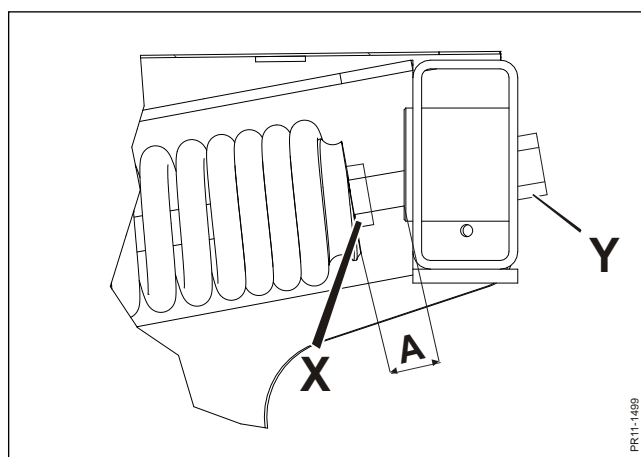

Fig. 3-10
**Fig. 3-10** The relief can be increased or reduced by adjusting the tensioning of the two horizontal springs. Lift the cutting unit until the springs have minimum tension. There is access to the springs from below.